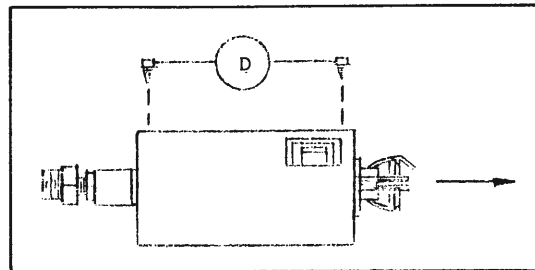

Figure 5-3
4. Remove screws (D) from top of burner housing and pull out burner (See Figure 5-3).